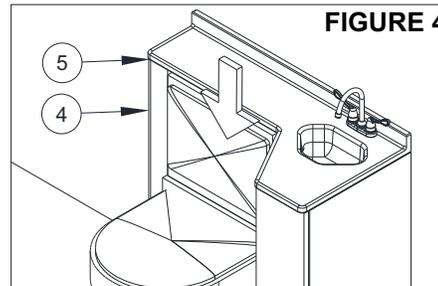

FIGURE 4
- H. Lower Countertop [5] onto Cabinet [4] and attach as required. **Figure 4.**